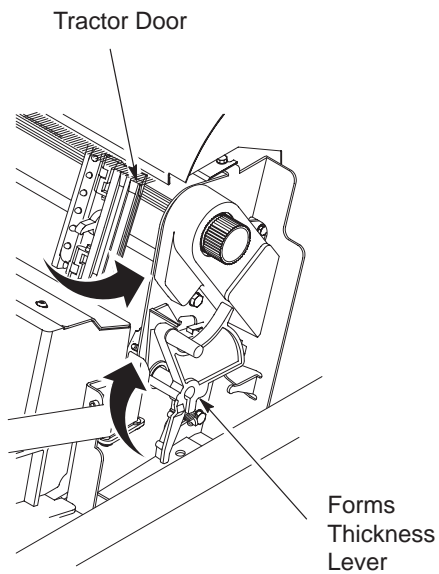

Figure 2-36. Forms Thickness Lever
2. Raise the forms thickness lever as far as it will go. See Figure 2-36.
3. Open the tractor doors. See Figure 2-36.